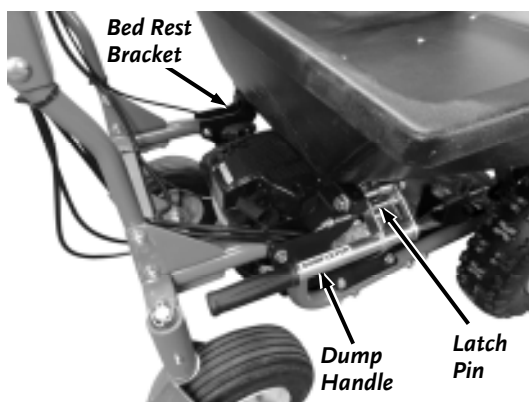

Figure 13
7. Ensure the back of the Bed Assembly is on the Bed Rest Brackets and the Dump Lever is fully latched onto the Latch Pin (Figure 13).